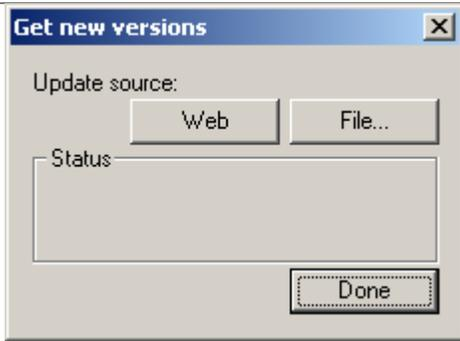

Figure 11
- 2b: Click on the File when installing compressed firmware files from a CD or saved file (see Figures 11 and 12)